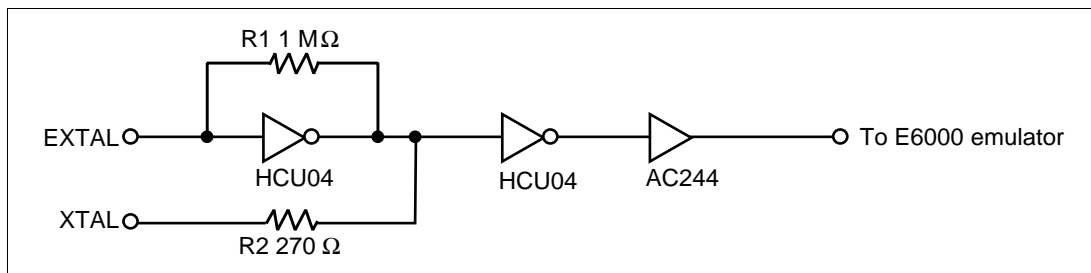

Figure 15 System Clock Oscillator
Figure 15 shows the oscillator circuit on the user system interface cable.
5. While the emulator station is connected to the user system with the user system interface cable, force must not be applied to the cable head. Place the emulator station, user system interface cable, and user system as shown in the example in figure 15.